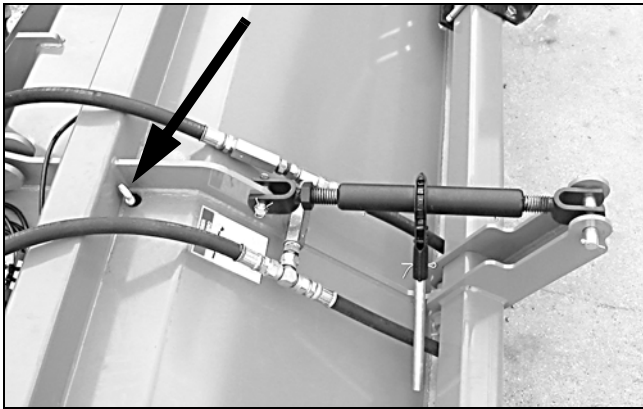

Figure 27. Gearbox Oil Fill Location
2. Lubricate rotor end bearings. (See Figure 27).